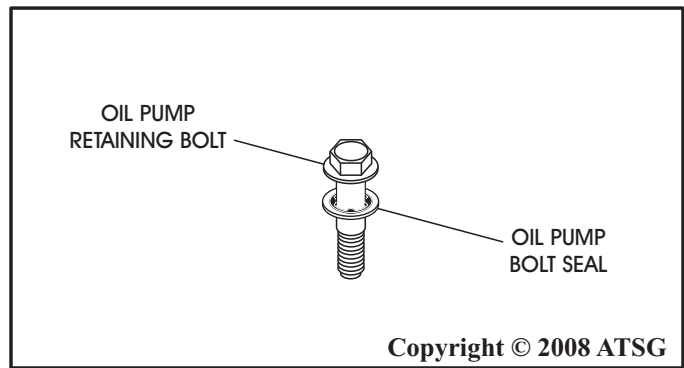

Figure 211
65. Install new seals on the ten oil pump retaining bolts, as shown in Figure 211.